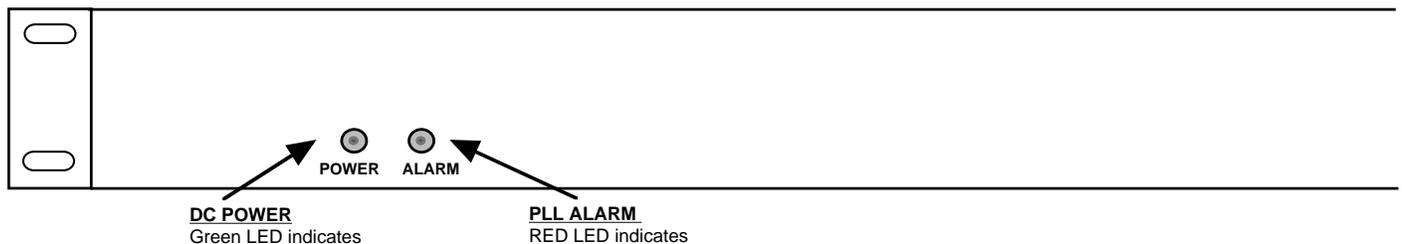

FIGURE 2.2 2083-2114-01 Front Panel Indicators
Figure 2.2 shows the front panel indicators.
7. Be sure DS6 (green, DC Power) is on and DS2 (red, Alarm) is off (Figure 2.2).